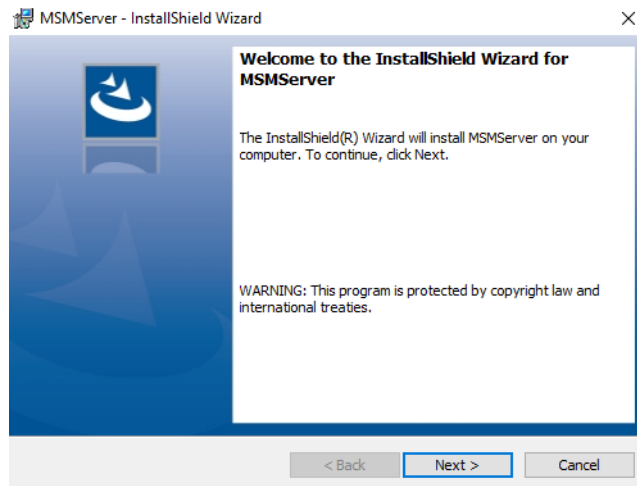

Figure 3
5. The MSM Enterprise Server installation window will appear (Figure 3). Click "Next".